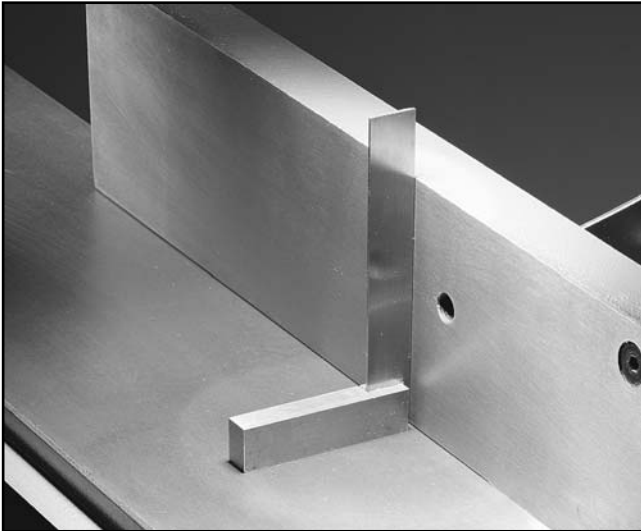

Figure 20. Use of square to align fence.
1. Place a square on the outfeed table fairly close to the cutterhead. **See Figure 20.**